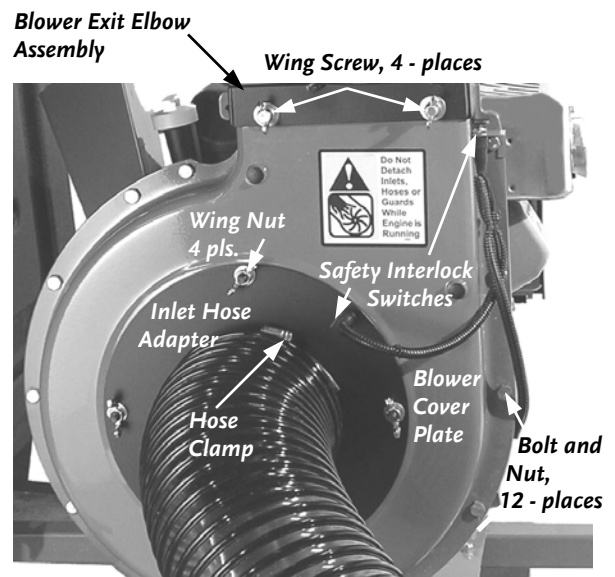

Figure 35
1. Loosen the Hose Clamps retaining the Inlet Hose at the Inlet Hose Adapter and the Connector Fitting at the opposite end of the Hose, then slip the Hose off the Adapter and Fitting (**Figure 35** on page 41).
2. Remove the Wing Nuts and Wing Screws to disconnect the Inlet Hose Adapter and Blower Exit Elbow Assembly from the Chipper/Blower unit (**Figure 35**).
3. Using two (2) 1/2" Wrenches or Sockets, remove the twelve (12) Bolts and Nuts retaining the Blower Cover Plate (**Figure 35**) and remove the Plate from the Blower Housing. The Chipper Impeller is now exposed.
2. Remove the Inlet Hose by loosening the Hose Clamp (**Figure 35** on page 41).
<p>The Engine won't start manually.</p> <p>(Please refer to the Engine Owner's Manual for engine-specific procedures.)</p>	<ul style="list-style-type: none"> <li>⇒ Check that the Spark Plug Wire is attached.</li> <li>⇒ Check the oil and gas level. See page 25.</li> <li>⇒ You should be using fresh, clean gas. If the gas is old, change it. Use a fuel stabilizer if you keep gas longer than one month.</li> <li>⇒ Check the Throttle adjustment and travel. See page 26.</li> <li>⇒ The Spark Plug should be clean. If the Spark Plug is dirty or cracked, change it. If it's oily, leave it out, hold a rag over the Plug hole and pull the Recoil Cord several times to blow out any oil in the cylinder, then wipe off the Plug and reinsert it.</li> <li>⇒ Check that the Safety Interlock Switch is depressed. See page 18 Figure 10 and page 41 Figure 35.</li> <li>⇒ If the Engine still won't start, visit our website at <a href="http://www.DRPower.com">www.DRPower.com</a> or call 1-800-DR-OWNER (376-9637) for assistance.</li> </ul>